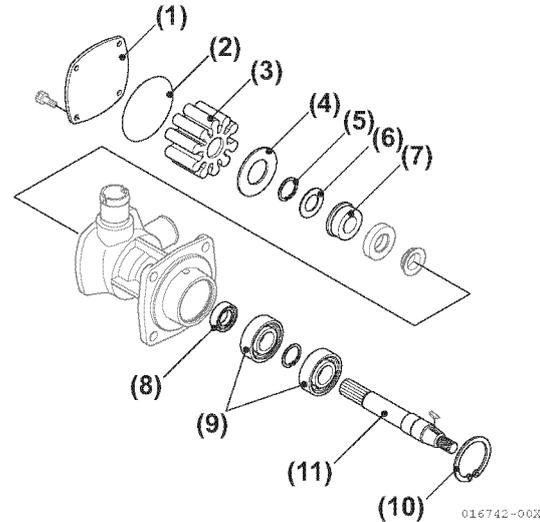

Figure 7-34
4. Remove four bolts, side cover (Figure 7-34, (1)) and O-ring (Figure 7-34, (2)).
5. Remove the impeller (Figure 7-34, (3)) and wear plate (Figure 7-34, (4)) from the housing.
6. Remove retainer, washer and mechanical seal (Figure 7-34, (5), (6), (7)).
7. Using pliers from drive gear side, remove retainer (Figure 7-34, (10)) which holds bearings (Figure 7-34, (9)).
8. Lightly tap pump shaft from impeller side and remove shaft and bearings as a set (Figure 7-34, (11), (9)).
9. Remove lip seal (Figure 7-34, (8)) and mechanical seal if necessary.
- Note: When installing the new impeller, rotate the impeller clockwise to bend the vanes in the direction of rotation (Figure 7-34, (3)).
- 15. Install a new O-ring (**Figure 7-34, (2)**) and hold it in the groove using petroleum jelly.